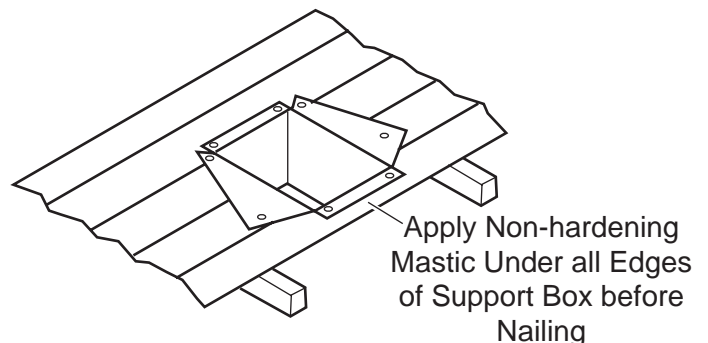

Figure 26 - Installed Cathedral Ceiling Support Box
4. Using tin snips, cut the support box from the top corners down to the roofline and fold the resulting flaps over the roof sheathing. See Figure 26. Apply a bead of non-hardening mastic around the top edges of the support box to make a seal between the box and the roof. Nail in place with roofing nails. Remove any combustible material that might be inside the support box.